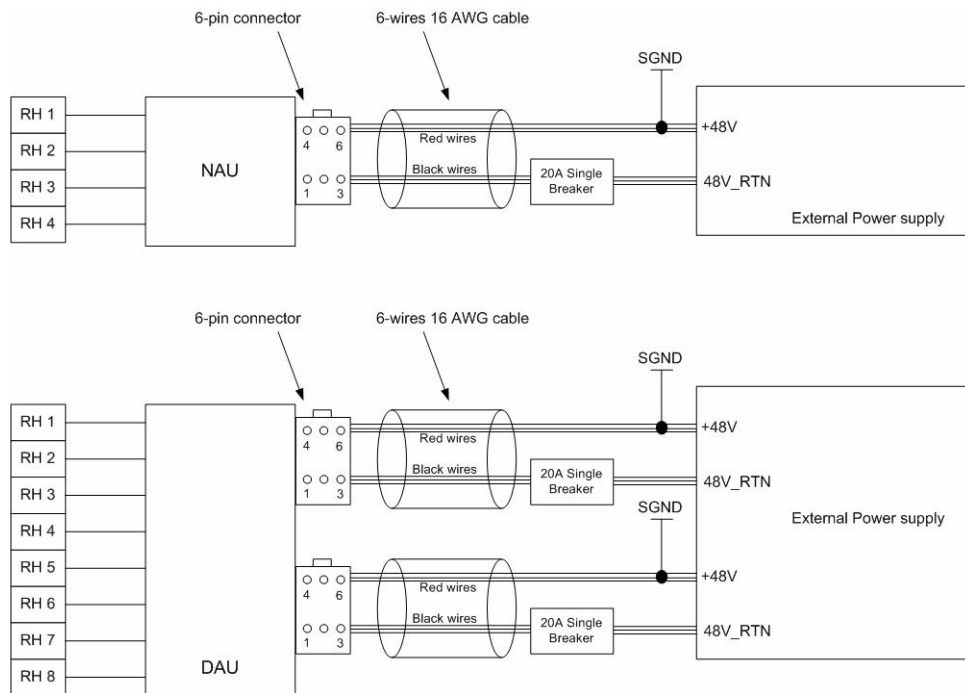

Figure 9: Connecting to a Circuit Breaker
- 6 To connect the power cable to a circuit breaker, follow the block diagram example in Figure 9.